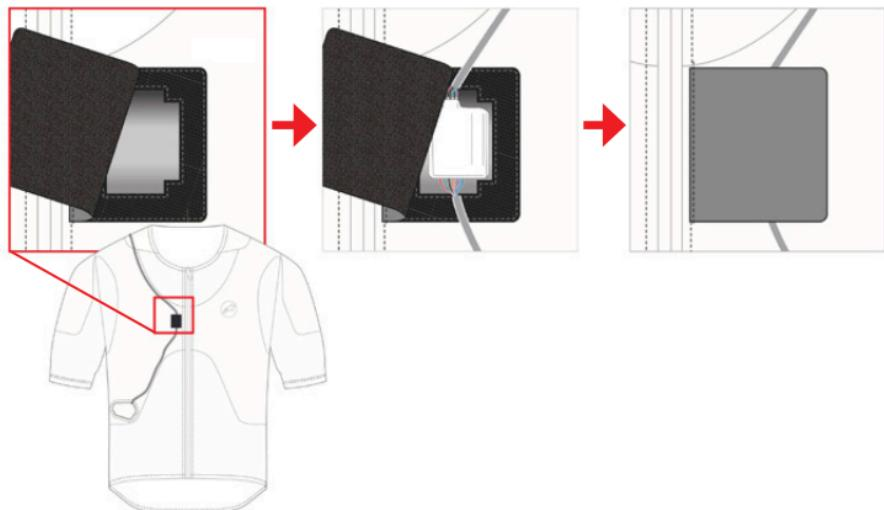

Figure 26: Inserting the LED Display (3) and Activation Zip (2)
1. Insert the LED Display (3) and Activation Zip (2) - Reinsert the LED Display (3) inside its casing slot and put the Activation Zip (2) back inside the pocket, taking care to position the Activation Zip (2) correctly inside its casing and making sure the Velcro is tightly closed as shown in Figure 26.